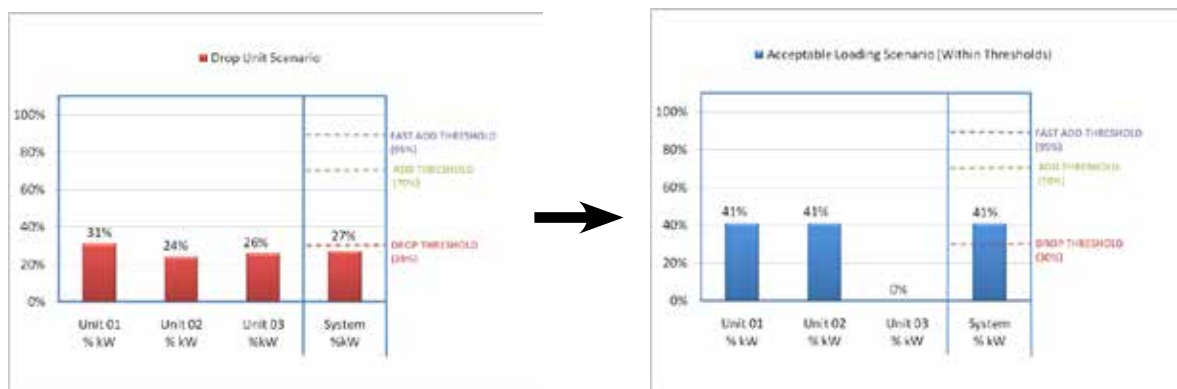

Figure 37.18 – LSLD Drop Unit Scenario Example
- The LSLD system % kW falls below the *LSLD Drop Unit Percentage Threshold* (setpoint) for the *LSLD Drop Unit Delay Time* (setpoint) AND the removal of the next generator set in the sequence will not cause the LSLD system % kW of the remaining generator sets to rise to within 5% of the *LSLD Add Unit Percentage Threshold* (setpoint). (Figure 37.18 – LSLD Drop Unit Scenario)